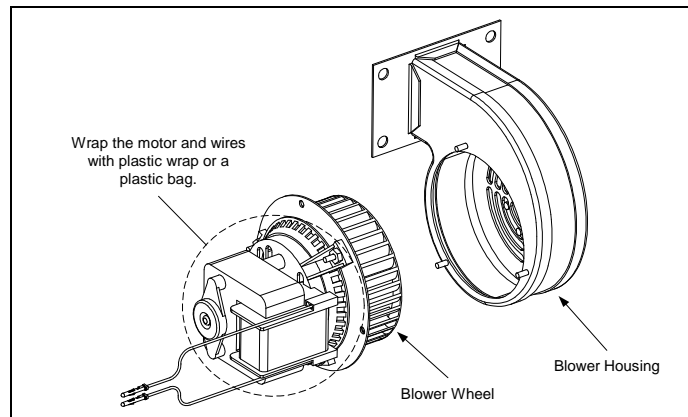

Figure 3
3. Wrap the motor with plastic wrap to prevent water from entering it. Spray degreaser or detergent on the blower wheel and the blower housing. Allow it to soak for five minutes. Rinse the wheel and housing with hot tap water, then dry with a clean cloth (see Figure 3).